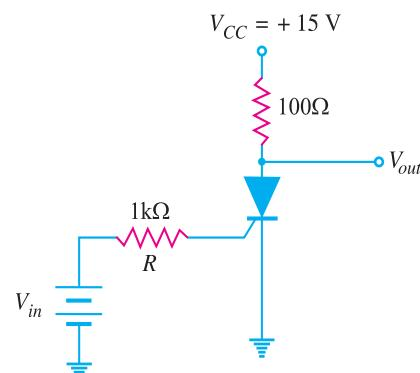

Fig. 20.25
**Example 20.12.** The SCR of Fig. 20.25 has gate trigger voltage  $V_T = 0.7V$ , gate trigger current  $I_T = 7 \text{ mA}$  and holding current  $I_H = 6 \text{ mA}$ .